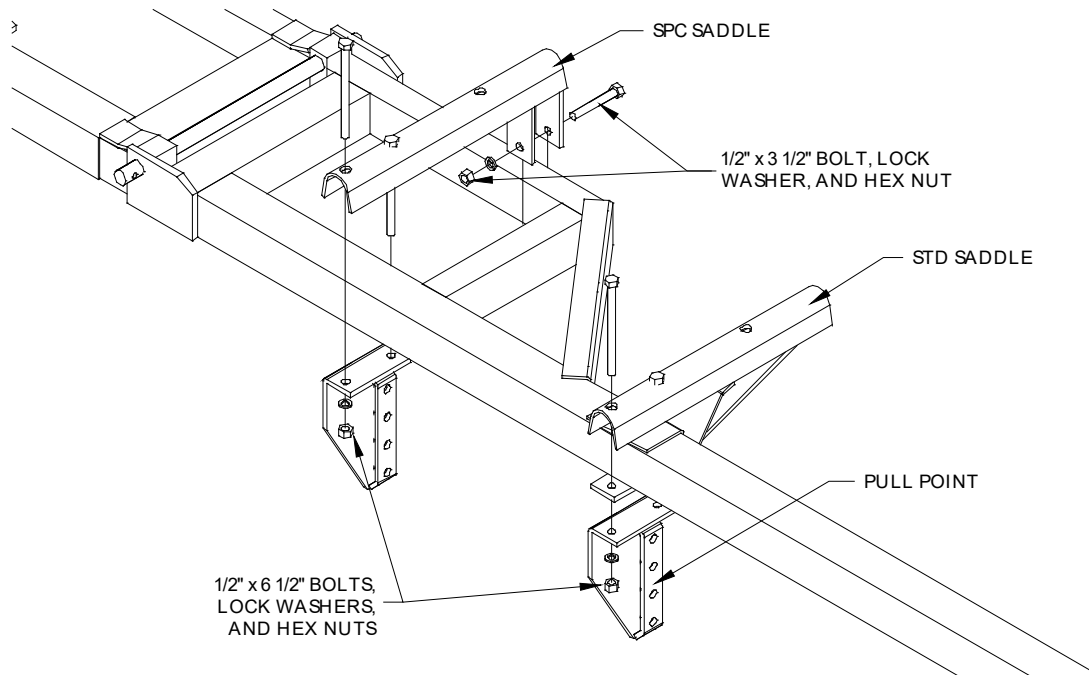

Figure 12
- Note that there are two different types of saddles: standard (STD) saddles and special (SPC) saddles (refer to Figure 12). STD saddles are used where lift arms intersect a single wing tube. SPC saddles are used where lift arms intersect dual, or trussed, wing tubes, or the center bar assembly. Each are mounted in a slightly different way.